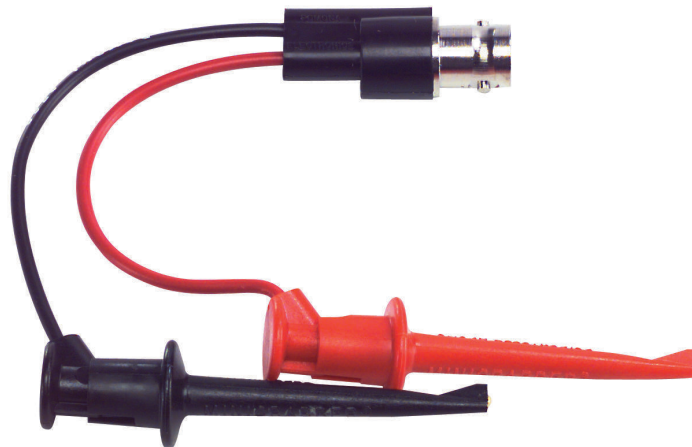

Figure 3: Mini Grabber to BNC Socket Connector
1. Connect the Probe Comp output to the scope using mini grabbers (see Figure 3).